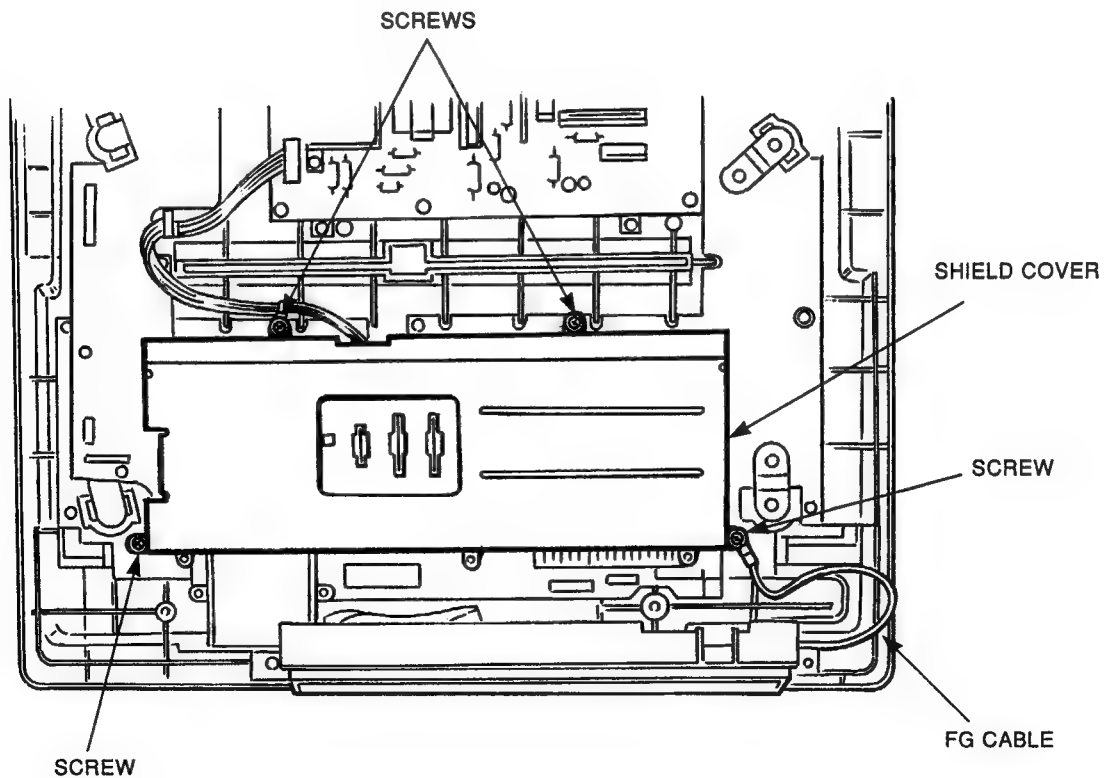

Figure 3-63 Shield Cover
1. Remove the shield cover by removing the four mounting screws (see Figure 3-63).